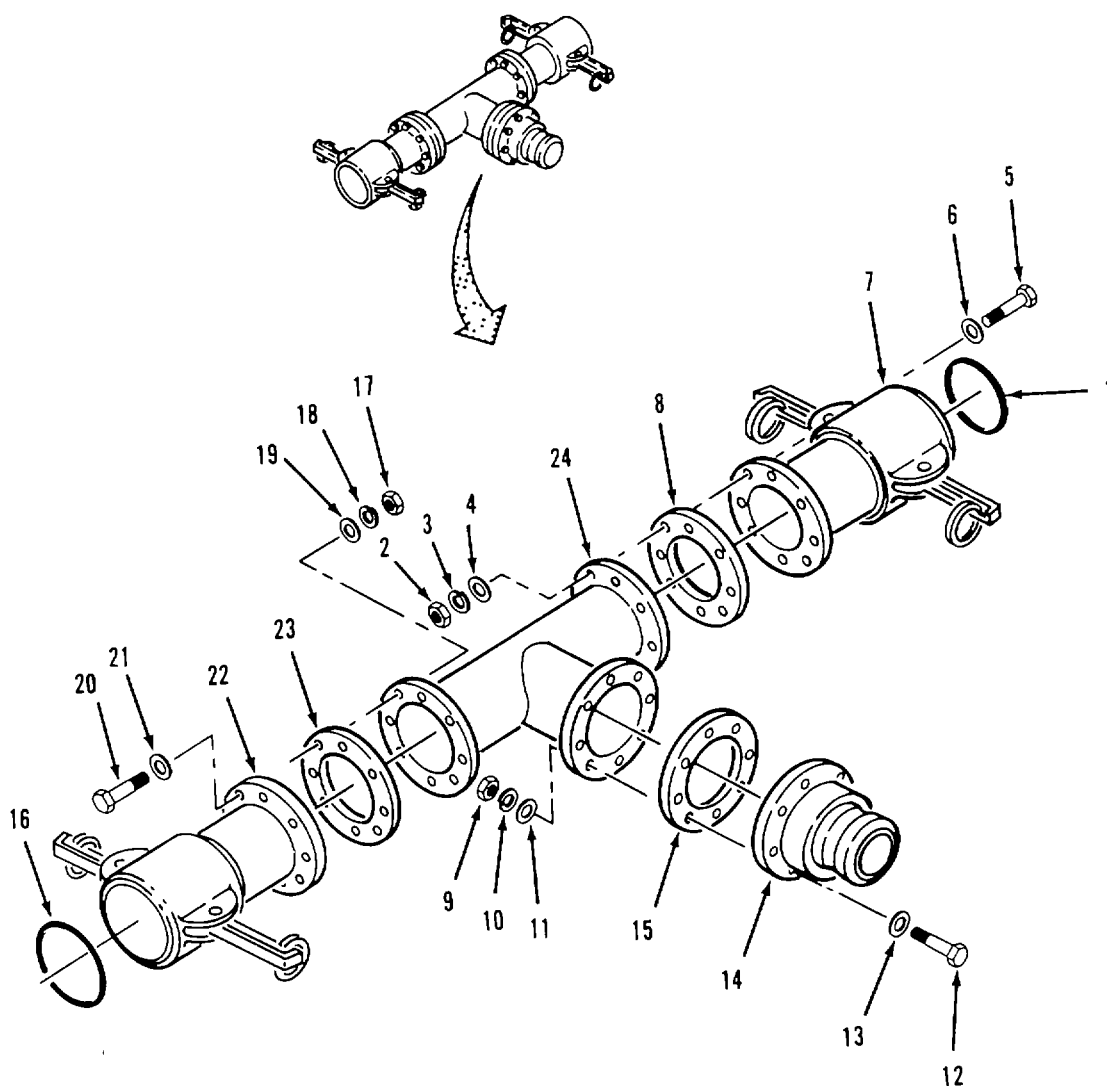

Figure 4-19. Tee Assembly (9112-Y1) Disassembly.
a. Disassembly. Refer to figure 4-19.
- (1) Remove gasket (1) from female coupling (7).
- (2) Remove eight nuts (2), lockwashers (3), flat washers (4) and screws (5) and flat washers (6).
- (3) Separate female coupling (7) and gasket (8) from tee (24).
- (4) Remove eight nuts (9), lockwashers (10), flat washers (11), screws (12) and flat washers (13).
- (5) Separate male coupling (14) and gasket (15) from tee (24).
- (6) Remove gasket (16) from female coupling (22).
- (7) Remove eight nuts (17), lockwashers (18), flat washers (19) and screws (20) and flat washers (21).